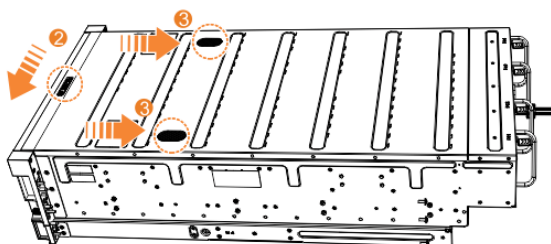

Figure 125. Replacing the top cover
7. Push the cover release lever to the side (2) as shown in Figure 125 on page 175.
8. Slide the cover towards the back of the enclosure (3) back until it stops, as shown in Figure 125 on page 175.